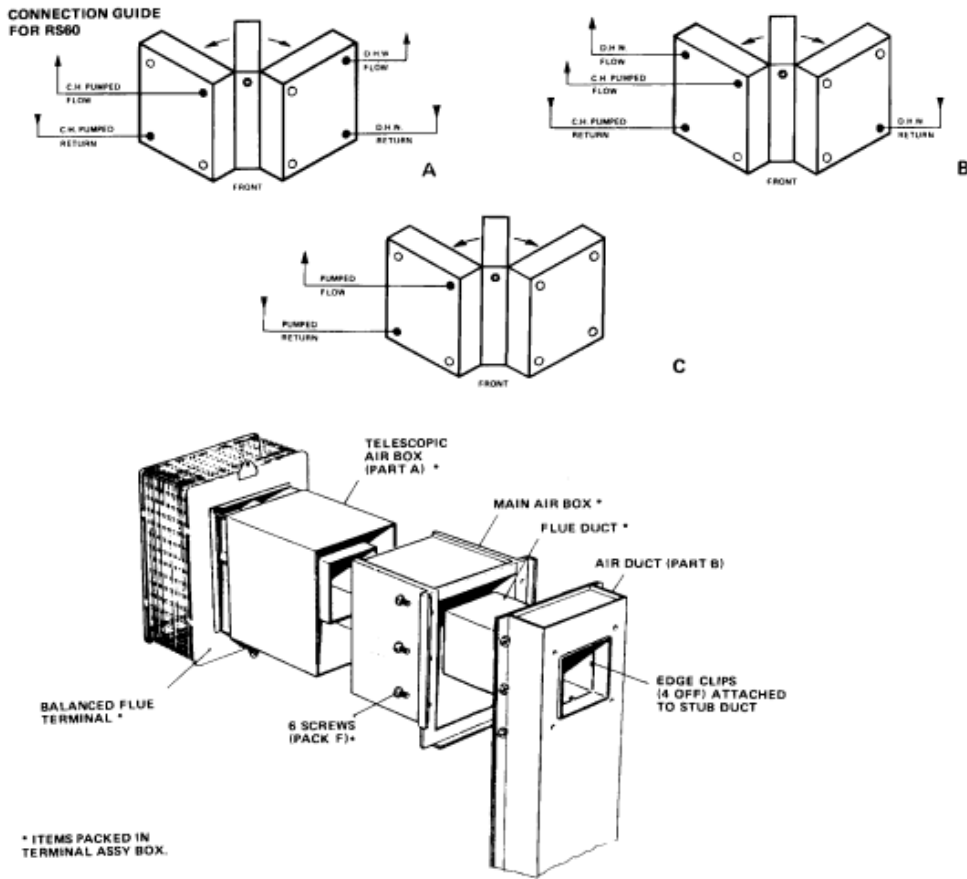

FIG. 5a RS.60 ONLY
3. (i) Filling the Flue Duct and Main Air Box (See Fig. 5a & 5b) RS.60 only
A. Locate the flue duct in the four edge clips attached to the stub duct on the air duct. Push firmly into the clips and use the roll of red/brown silicone tape in the terminal box to seal around the jointing line (Fig. 5a).
B Fit the main air box to the air duct using the six M6 screws from fastener pack F Note: The flanges on the main air box should be upward facing (Fig. 5a).
Seal the ducting joint with the black PVC adhesive tape, ensuring a good seal over the flanges at the top of the main air box. (see Figs. 5a and 5b).